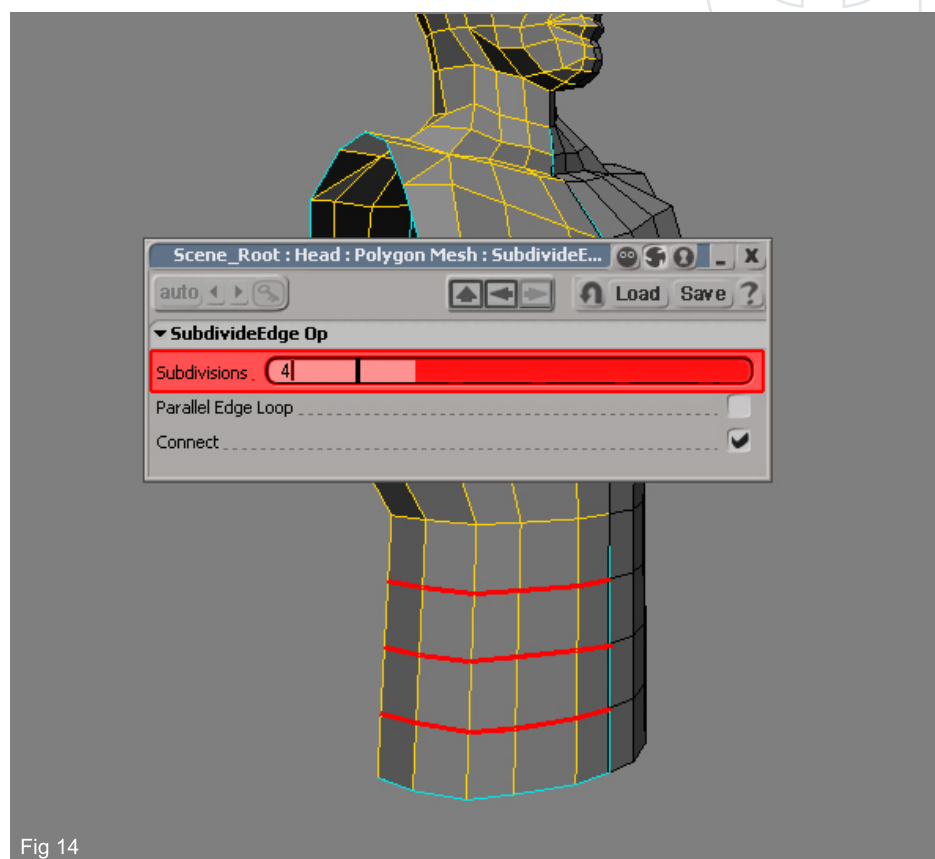

Fig 14
14. Select the edge ring you just created with the extrusion, and subdivide it (Shft + D) by a value of 4, like shown in Fig14.